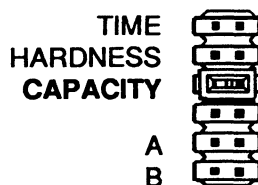

Figure 11
5. Place the jumper on the set of pins next to the word **CAPACITY** (Figure 11). Depress the black TIME SET BUTTON until the correct capacity value is displayed. The capacity range is 1,000 to 99,000. Refer to the salt setting chart (Figure 13).